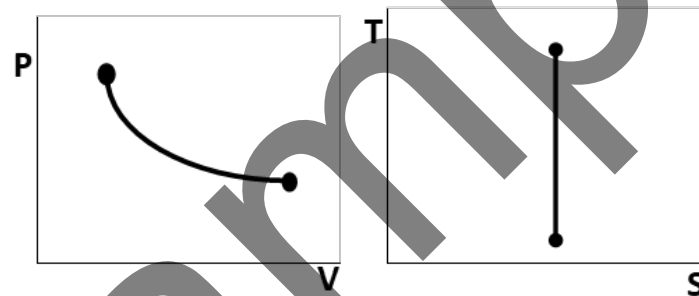

Fig.1.9: Isentropic on a  $P - V$  diagram (left) and  $T - S$  diagram (right).
**Isentropic:** The isentropic relationships are shown by Eq.1.23, Eq.1.24, Eq.1.25, and shown on the  $P - V$  and  $T - s$  diagram by Fig.1.9.